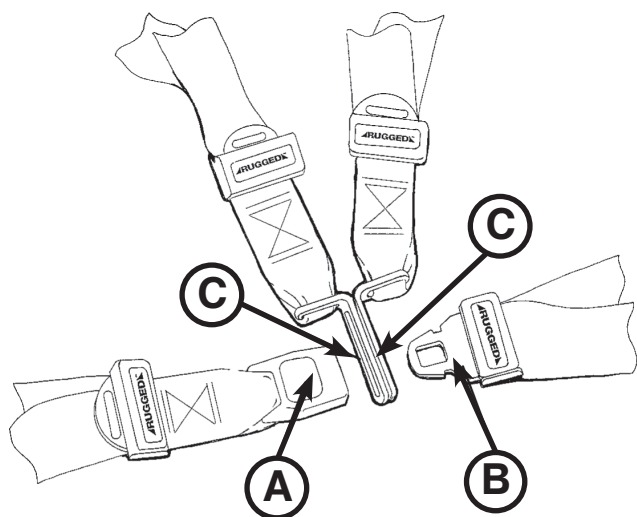

Figure 40.1: Buckling the Safety Restraints
- **To close the restraint**, push the latch plate into the receiver until a “click” is heard. When fastening the chest restraint ensure that the latch plate passes through both links (C) on the shoulder strap (Figure 40.1).